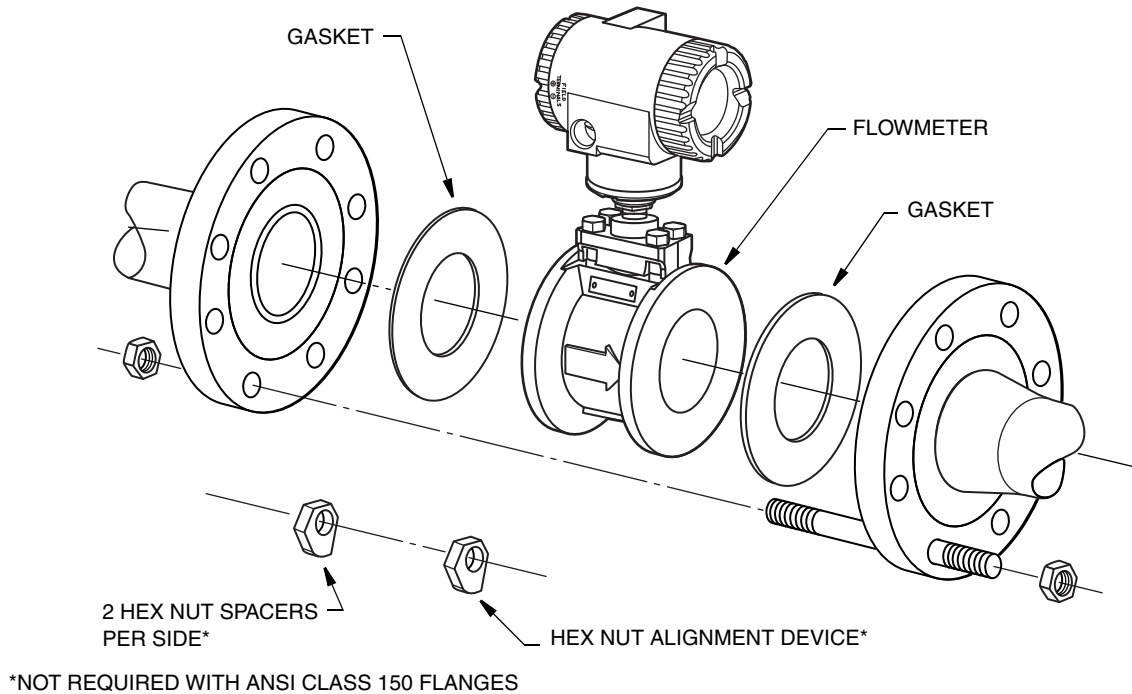

Figure 18. 84W Flowmeter Body Centering
1. See Figure 18. Insert the first stud through the downstream flange at one of the lower holes, through two hex-nut spacers, and then through the upstream flange. Place the nuts on both ends of the stud, but do not tighten.